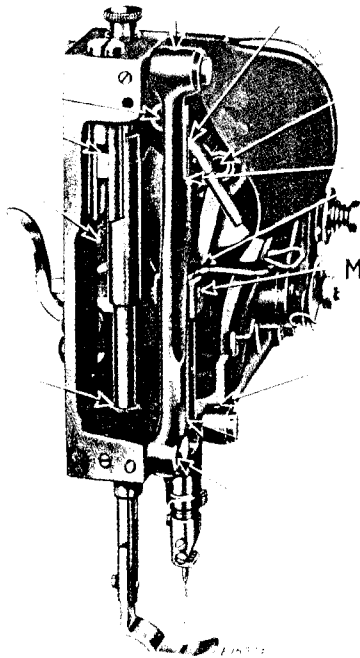

Fig. 5. End View of Machine, Showing Oiling Points
In case the needle bar is not correctly set, loosen the needle bar set screw (M, Fig. 5) and place the needle bar in the correct position as instructed above, then retighten the screw (A).